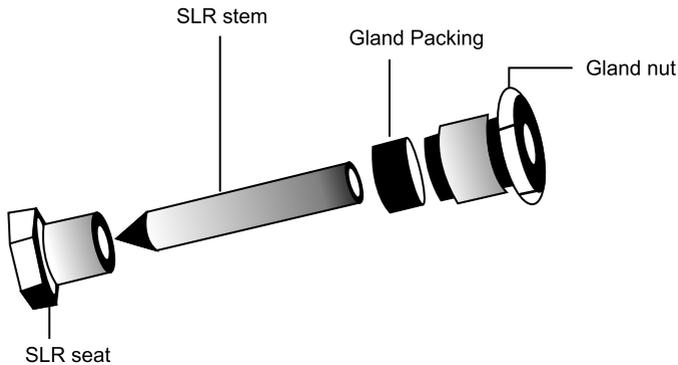

Figure 9: SLR assembly
7.5 Procedure to fit the Steam Lock Release (SLR) assembly: (Refer to Figure 9):
2. Remove the SLR gasket (not shown in the figure 9).